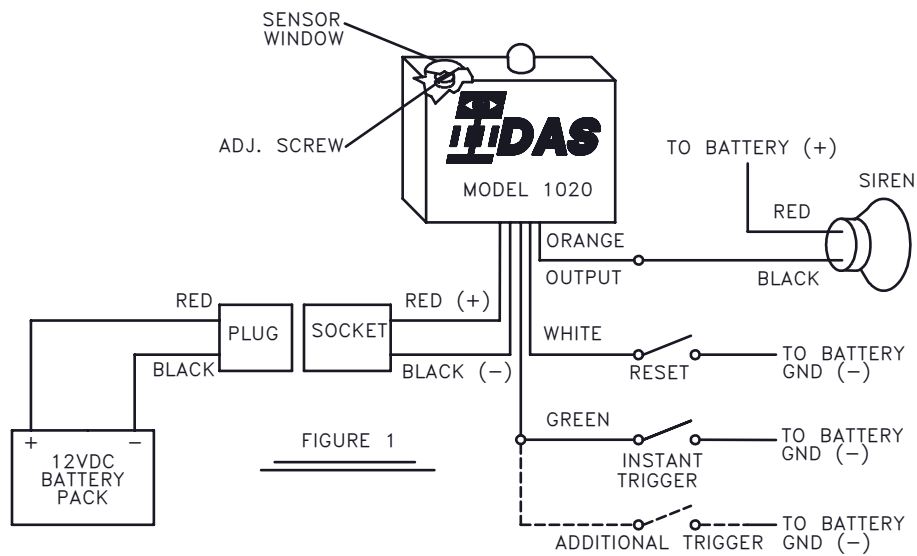
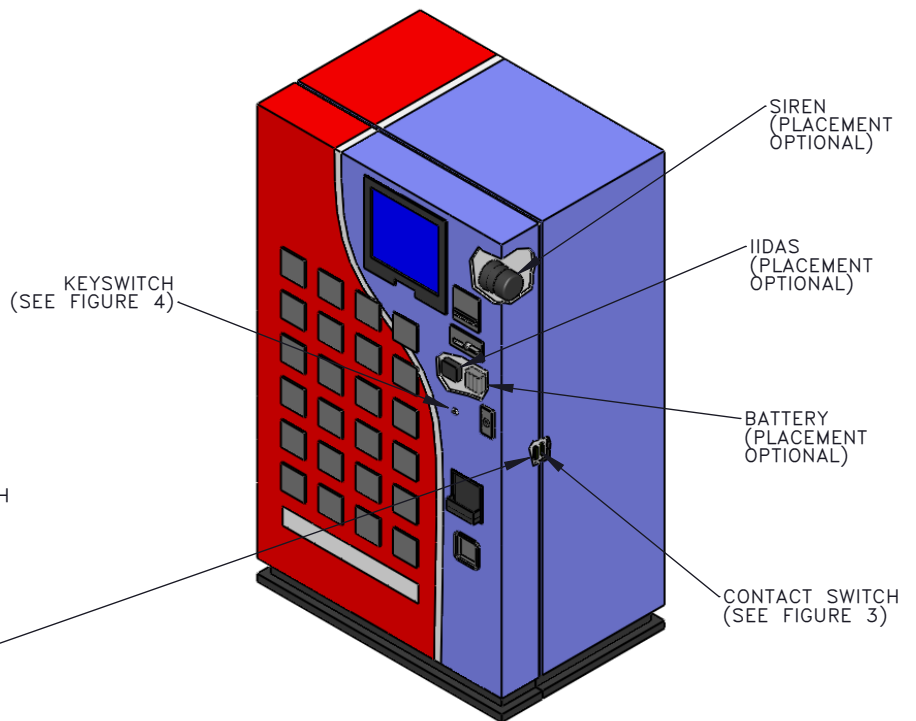

FIGURE 1
FIGURE 2
The ***IIDAS®*** impact/abuse sensor is designed to detect severe impact, unwarranted abuse, or abrupt rocking. After installation, if it is necessary to adjust the impact sensitivity, remove the sensor window (see Fig. 1) from the ***IIDAS®* Controller**, and with a small flat-head screwdriver simply turn the screw, in one-half turn steps, clockwise to increase the impact sensitivity and counter-clockwise to decrease the impact sensitivity. Whenever the impact/abuse sensor is triggered ***IIDAS®*** will instantly alarm for approximately 30 seconds and then reset automatically. The alarm output may be shortened or lengthened at BRW's factory. Whenever ***IIDAS®*** is triggered again, during an alarm cycle, it will restart its 30 second alarm output. Whenever ***IIDAS®*** is triggered by a door being illicitly opened it will instantly alarm for approximately 30 seconds and then reset automatically.
***IIDAS®* CONTROLLER:** Remove the two-sided tape backing from the ***IIDAS®* Controller** and attach it to a clean surface on the inside the lottery machine's door with the ***IIDAS®* LED** facing upwards (see Fig. 2). For best performance attach near the lock assembly.
**SIREN:** Remove the two-sided tape backing from the siren and attach to a clean surface on the inside of the lottery machine (see Fig. 2). Use the siren's mounting bracket if possible.
**RESET SWITCH (System 105DA):** The magnetic contact assembly is used to disarm ***IIDAS®*** when the service door is opened. Remove the two-sided tape backing and locate a space on the inside of the lottery machine's door and attach the switch portion; then attach the magnet portion inside the lottery machine, on the door's frame, parallel to the switch. The maximum gap between the switch and the magnet should be no more than ½ inch. Use the spacer or the plastic "L" bracket if necessary. Check installation with a meter to insure proper alignment (Door Open = closed, Door Closed = open). (See Fig. 2).
**WHITE WIRE (Reset):** For *System 105DA*, attach the white wire on the ***IIDAS®* Controller** to either one of the wires on the switch portion of the magnetic contact assembly. Attach the other wire of the switch portion to the black wire (-) on the battery (see Fig. 2). For *System 105KA*, attach the white wire on the ***IIDAS®* Controller** to the white wire on the key lock, then attach the black wire on the key lock to the black wire (-) on the battery (see Fig. 1 & 4).
**ORANGE WIRE (Alarm Output):** Attach the orange wire of the ***IIDAS®* Controller** to the black wire on the siren. Then attach the red wire on the siren to the red wire on the battery (see Fig. 1).